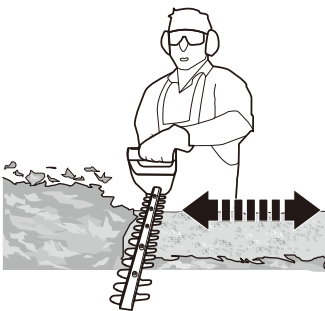

Fig. 9
9. Cut in a number of stages to achieve a better result rather than trying to cut in one go if the area being cut is particularly long (Fig. 9); smaller cuttings will allow for easy composting.